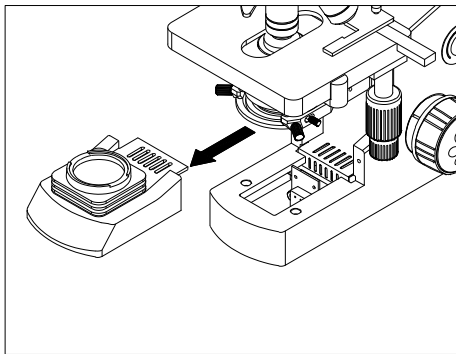

Fig.11
1. Pull out the condenser holder as shown in Fig.11.
2. Hold the bulb ① after you wrap it with gauze or other protection materials, and then insert its pin ② deeply into the jack in the lamp holder.